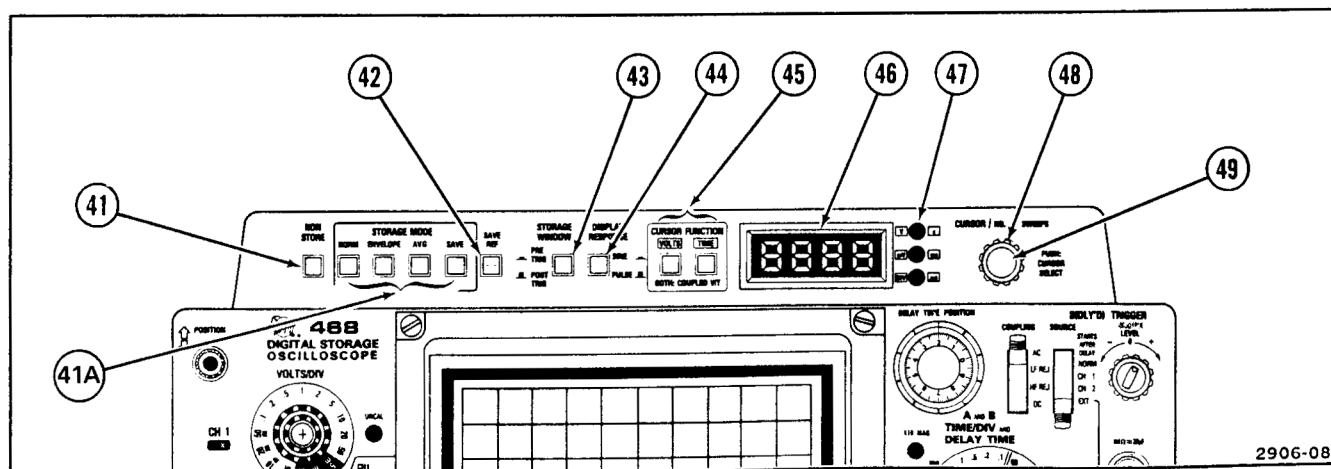

Figure 2-8. Digital storage controls and indicators.
Refer to Figure 2-8 for location of items 41 through 49.